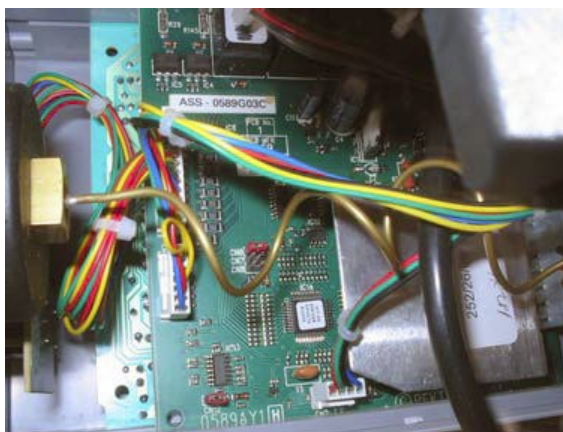

Figure 2 - PCB Fan Speed Jumper
6. On the right hand board as you look at the boiler face on, you will locate a small electrical bridging jumper attached to the board. The jumper is red in colour, approx 18mm in from the front edge and 12mm up from the bottom edge of the board (see Figure 2).